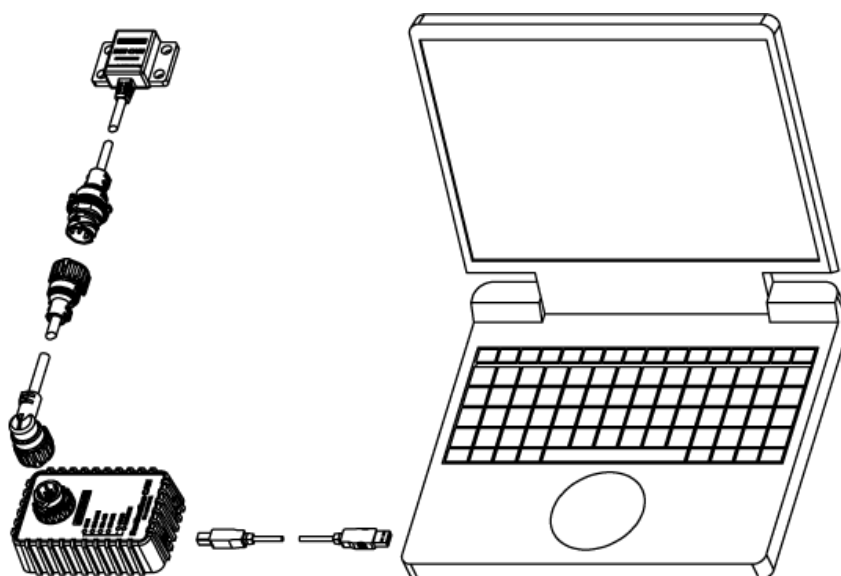

fig. 5.1. Connecting sensor to service adapter and PC
- 4) Connect the sensor to the service adapter (fig. 5.1).